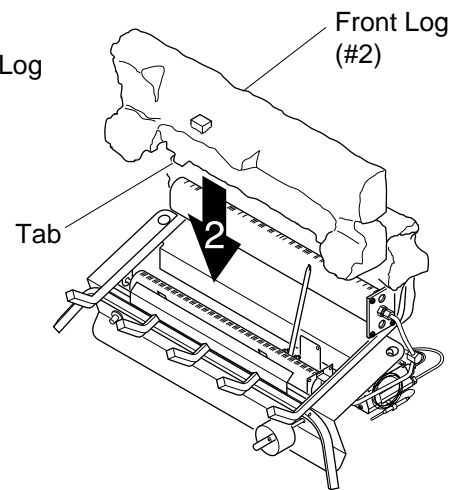

Figure 17 - Installing Front Log
2. Slide front log (#2) into place behind front burner. Make sure tabs at bottom of log are behind front burner (see Figure 17).